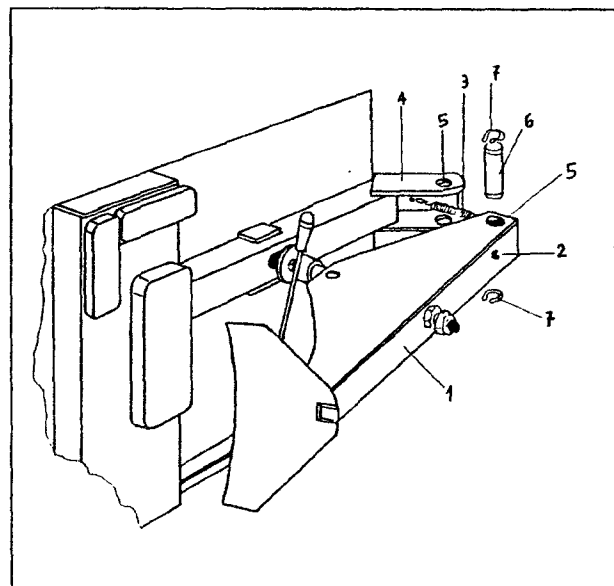

Fig.6
F. Place the bead breaker arm #1 (Fig.6) inside arm support #4. Holes #5 of arm and arm support must match.